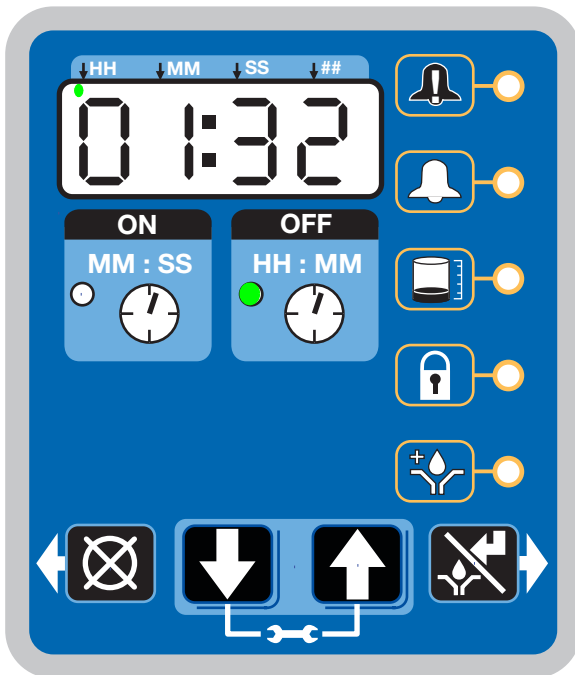

FIG. 21
After setup is complete, the G3 automatically begins to run the OFF Time sequence (FIG. 21).
- The example shown in FIG. 21 shows an OFF Time of 1 hour and 32 minutes before the lubrication cycle begins.
- When the ON Time count reaches zero, the pump shuts off again and the system again runs OFF Time cycle and the OFF Time LED is now again illuminated (FIG. 21).